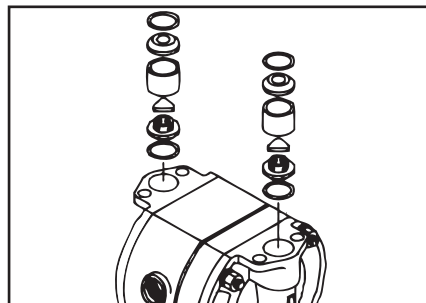

Figure 19
- Remove the ball/flat, valve seat and O-ring (See Figure 19).